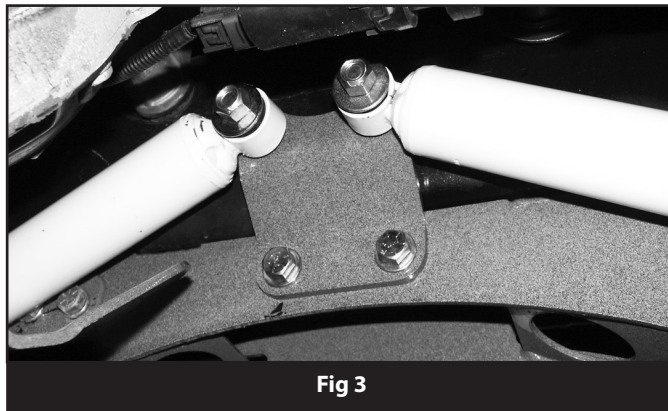

Fig 3
5. Install the steering stabilizers/center mounting bracket in the vehicle. Place the stabilizers on top of the lower control arms and line up the two bottom holes in the center bracket with the two corresponding holes in the BDS front crossmember. The center bracket should be offsetting the cylinders rearward. Fasten the bracket to the crossmember with  $\frac{1}{2}$ " x  $1\frac{1}{4}$ " bolts, nuts and  $\frac{1}{2}$ " SAE washers (Fig 3). Torque  $\frac{1}{2}$ " x  $1\frac{1}{4}$ " bolts to 60 ft-lbs.